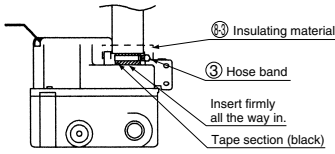

Figure 12
- (2) Insert the hose band ③ into the external drain hose, firmly insert the drain hose all the way into the drain socket in the drain up kit, and wrap it firmly with the hose band ③ within the area designated by the black tape on the hose end. (Figure 12)